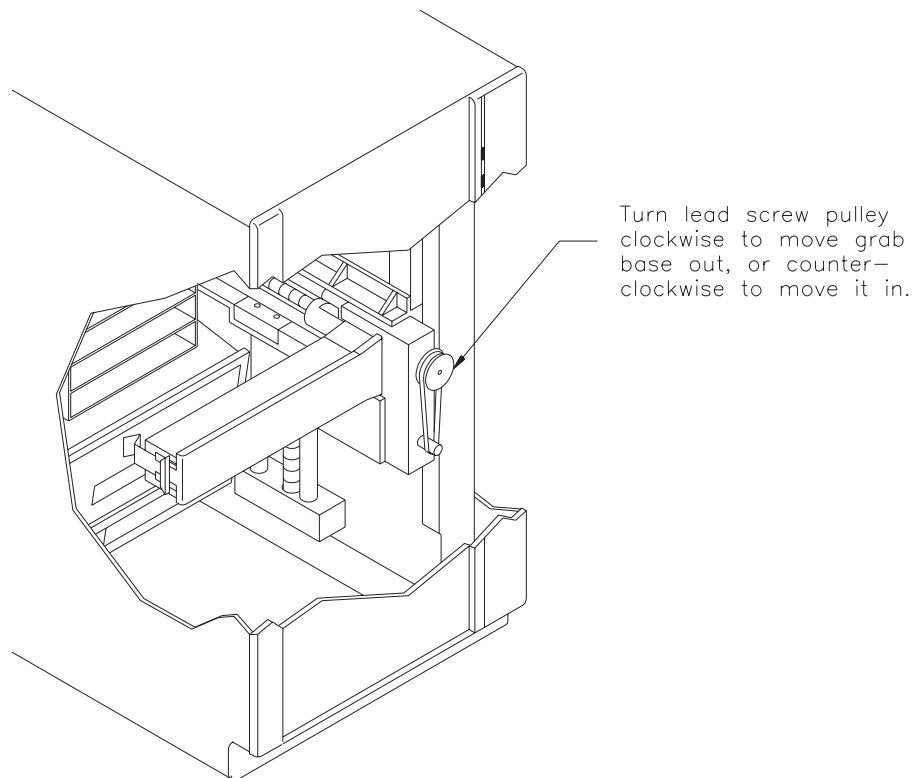

Figure 3-2 Turning the lead screw pulley
1. Locate the lead screw pulley on the grab base, as shown in Figure 3-2.